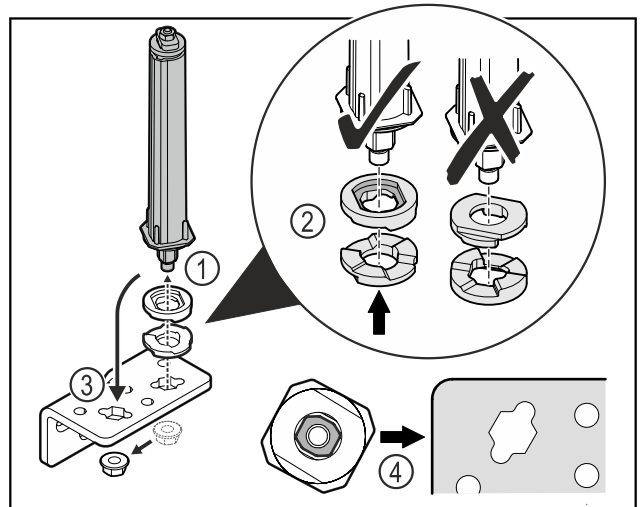

Fig. 38
- ▶ Loosen the nut and remove the door closing system Fig. 38 (1).
- ▶ Observe the correct alignment of the height adjustment washers Fig. 38 (2).
- ▶ Put the door closing system in the hinge and fix in place with the nut Fig. 38 (3).
- ▶ Observe the correct alignment of the door closing system when doing so Fig. 38 (4).